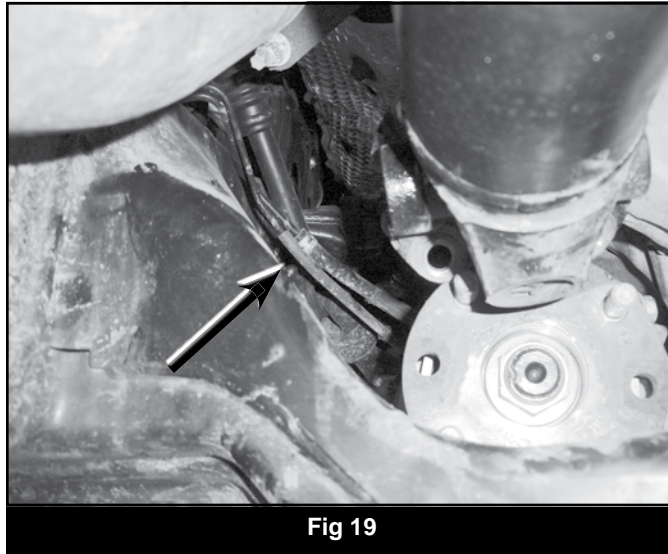

Fig 19
24. Locate the differential vacuum and breather lines on the upper driver's side of the differential (Fig 19). Disconnect the lines from the hard lines at the frame.